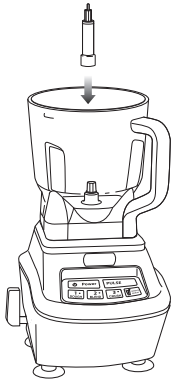

Fig. 1
- 2 Holding the spindle by the shaft, place it onto the gear shaft inside the 64 oz. bowl. Ensure that the attachment fits around the gear shaft and that it is standing straight. (Fig. 1)